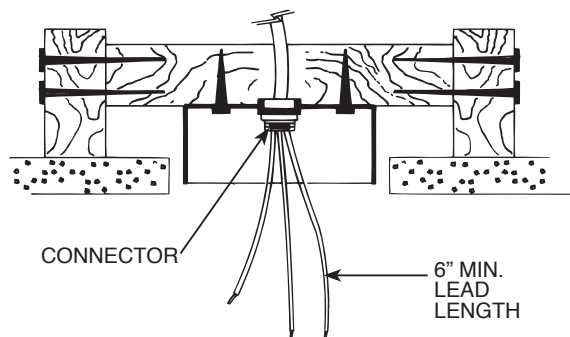

FIGURE 3. Wiring Outlet Box
**B.** Bring electrical cable into the outlet box and attach with an approved connector. Make certain that wiring meets all national and local electrical codes. Wire leads should extend at least 6" beyond outlet box for ease in making connections. See Figure 3.